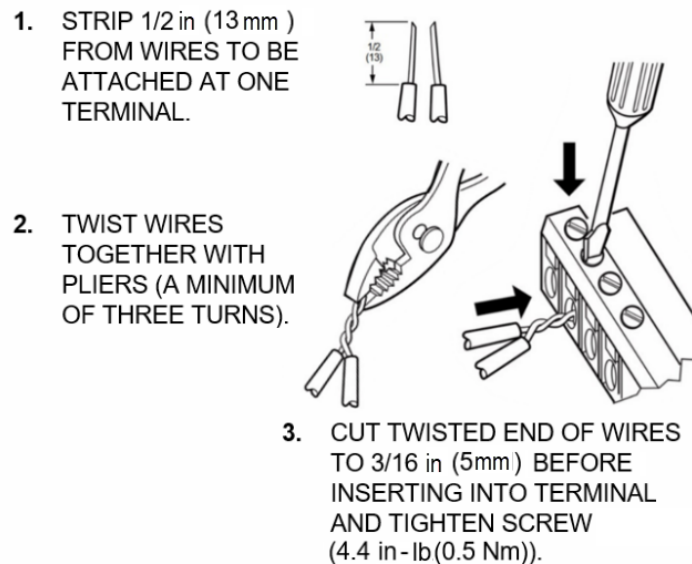

Fig. 12 Attaching Two or More Wires at Terminal Block
- If two or more wires are being inserted into one terminal location, twist the wires together with a minimum of three turns before inserting them, see Fig. 12.